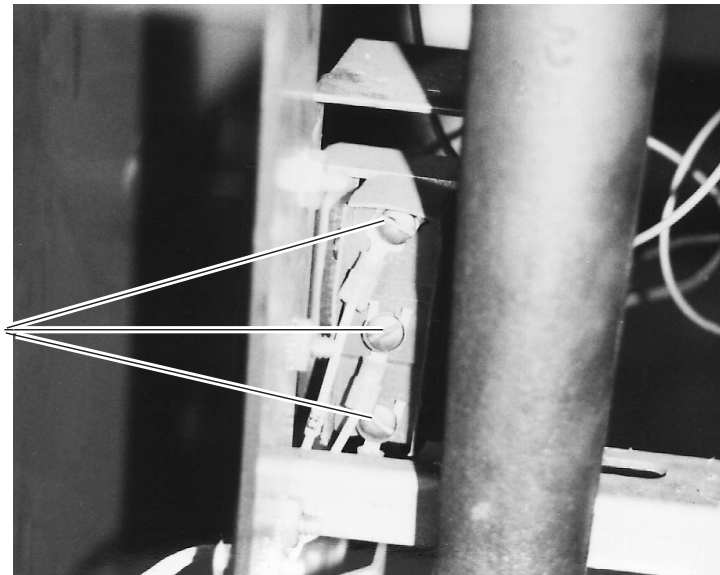

Fig. 22
3. With a flat blade screwdriver note and remove (3) wire leads from the high limit. (Fig. 22)